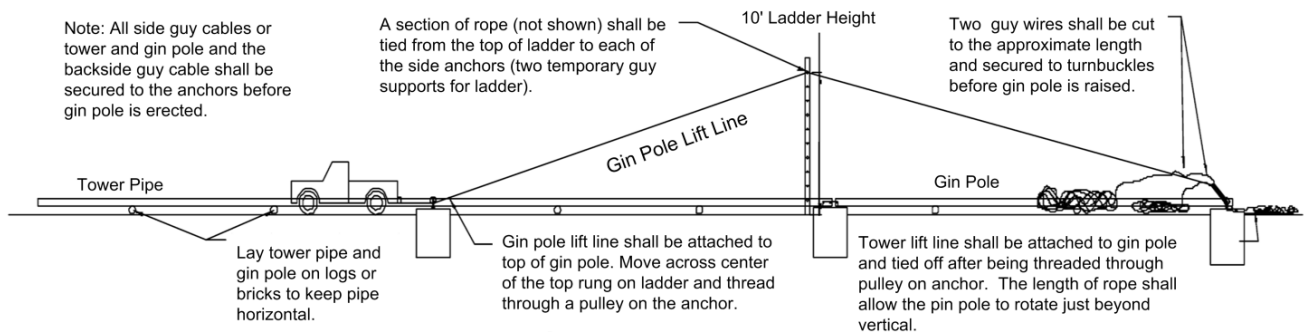
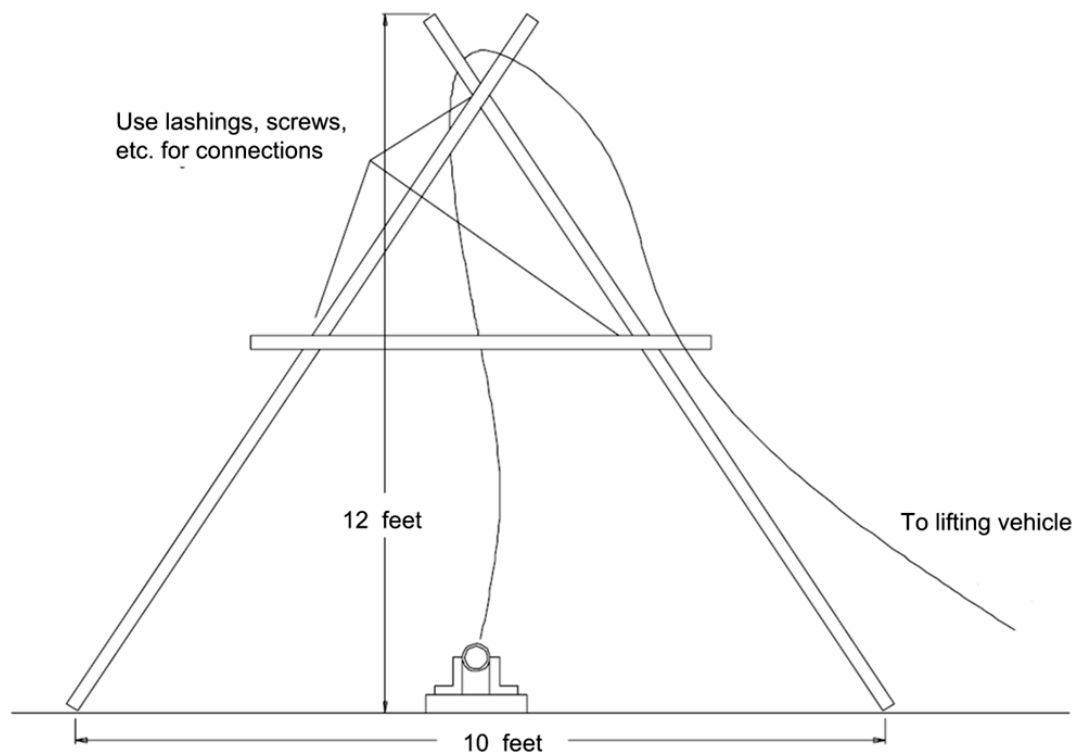

Figure 10
Figure 15
When you finish assembling the gin pole and tower pipe the installation, it should look like Figure 10. Remember to have on hand wood pieces or bricks to support the pipe sections 7 inches above ground. This is important since you **do not** want to be moving the tower and lift-pipe sections around. They are very heavy! Remember to have help around to move the pipes into place. See figure 2 and 10 for details!
2. The first step to raising the tower is to raise the gin pole. The gin pole for the 70' 500 tower weighs over 500 pounds, so a secondary gin pole is necessary to raise the gin pole. One option for this secondary gin pole is to use a 10' ladder with a minimum rating of at least 250 pounds (see Figure 10). Do not use a stepladder for this because it must be able to rotate on its base. The ladder should straddle the tower pipe and be located near the tower base. An extension ladder with the proper rating should work just fine. The ladder should be given side-to-side support by tying a rope from the top of the ladder to each of the side anchors. This rope should have a minimum breaking strength of 4000 lbs. These two ropes will prevent the ladder from falling to either side during the gin pole erection. If a ladder is not available, then an A-Frame can be built out of 2x4s (see Figure 15).
4. Connect the gin pole lift line to one of the turnbuckles on the gin pole. The minimum breaking strength for this rope must be 4000 lbs. The gin pole lift rope is then run across the top rung on the ladder before it goes through a pulley connected to the anchor. This pulley must be rated for at least 3000 lbs. The end of this rope should be attached to the bumper on the vehicle raising the gin pole. An alternative to a vehicle is to use an appropriately sized winch connected to the anchor (see Figure 10).